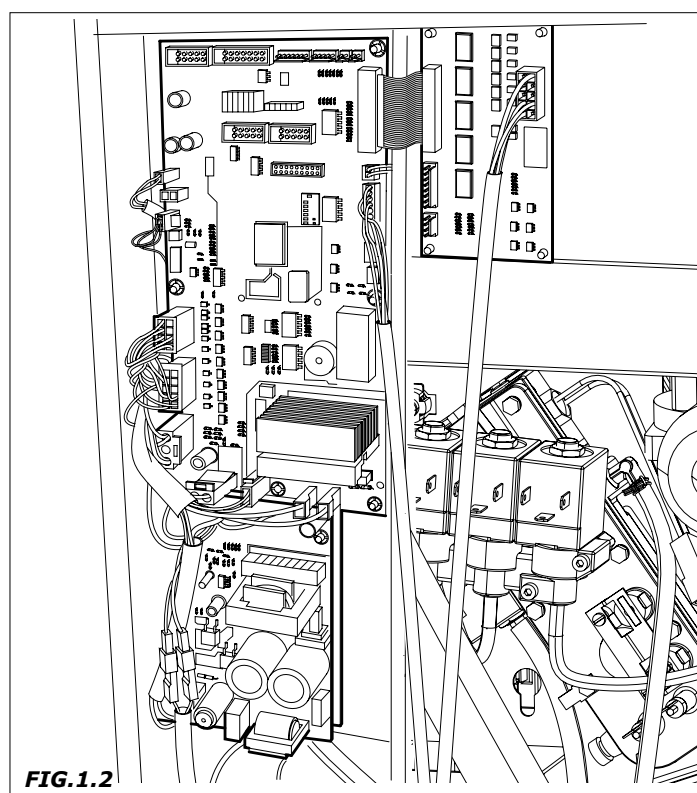

FIG.1.2
- The version of the programme contained in the microprocessor (adhesive label applied to the component the assembled on the Master board) (Fig.1.2).